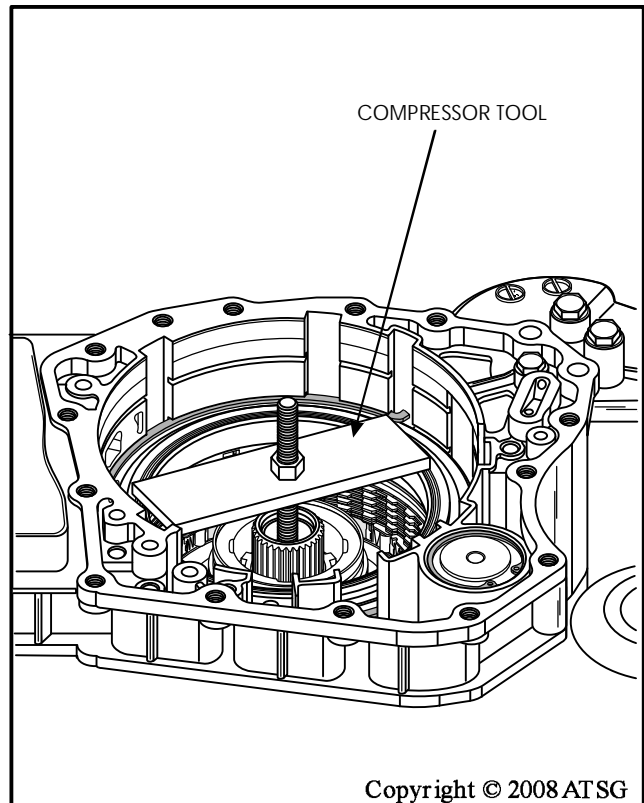

Figure 60
77. Install universal compressor tool, as shown in Figure 60, to compress the low/reverse clutch piston retainer.